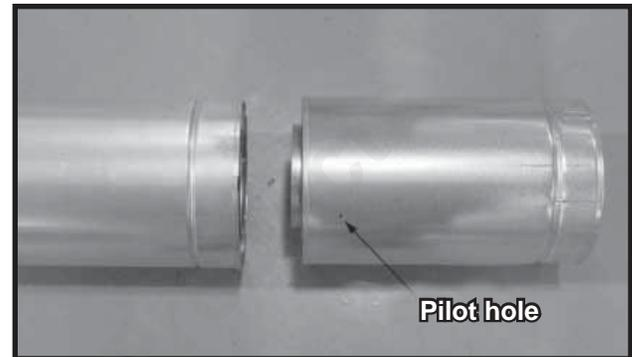

Figure 33. Slip Section Pilot Holes
- Slide the inner flue of the slip section into the inner flue of the pipe section and the outer flue of the slip section over the outer flue of the pipe section. See Figure 33.